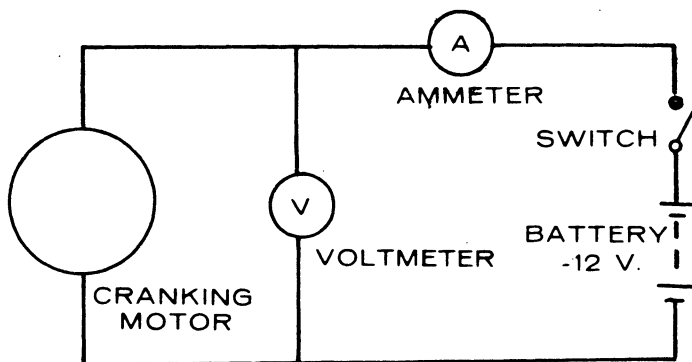

FIGURE 20. CRANKING MOTOR WINDINGS
1. Use conductor of at least #14 AWG diameter and as short as possible to wire the unit as shown in Figure 20. With the battery providing at least 11.8 volts (after switch is closed) the rpm should be not less than 8000 and the current draw not greater than 25 amperes. If this no-load test is failed, proceed with the inspection of the drive assembly before overhauling the unit again or changing the wiring.